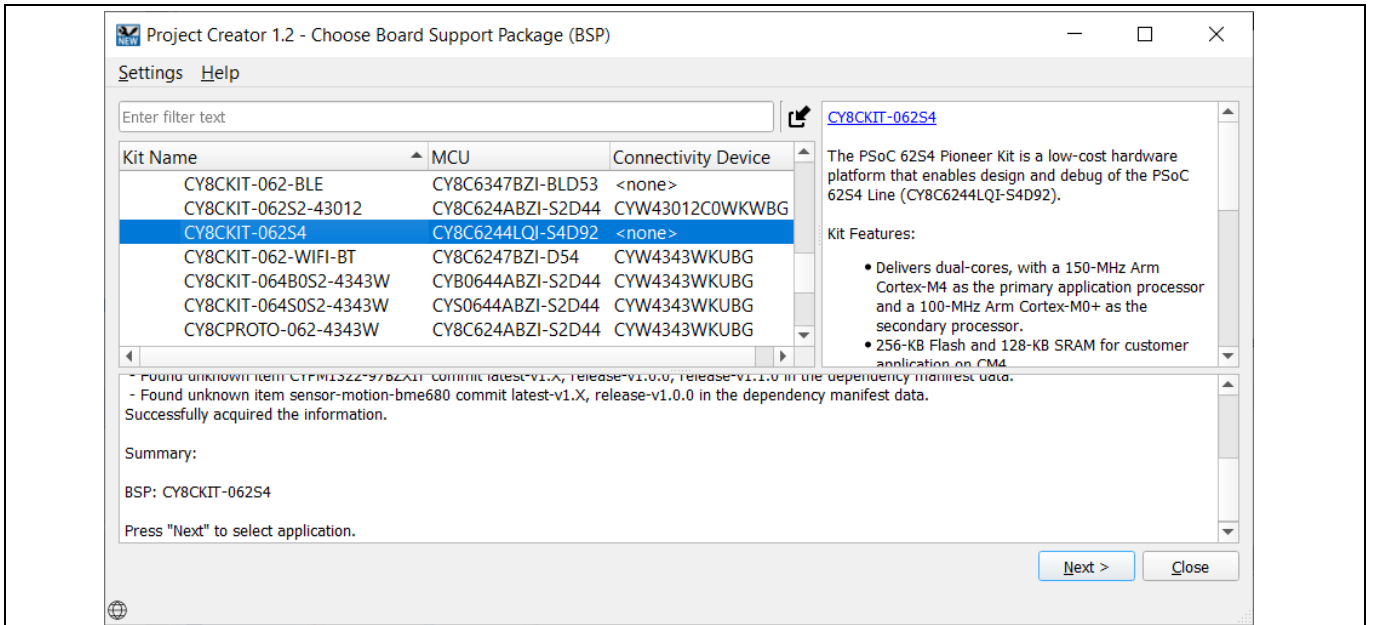

Figure 8 Board Support Package (BSP) window
- b) Select the CY8CKIT-062S4 in the “Choose Board Support Package (BSP)” window and click **Next**, as shown in **Figure 8**.